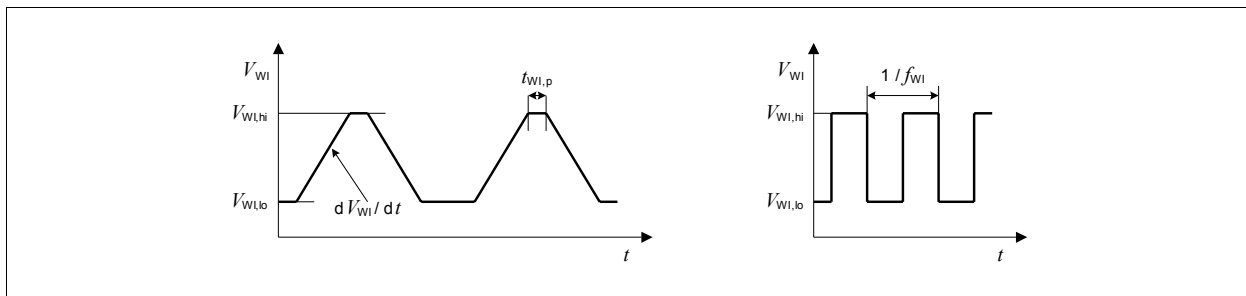

Figure 10 Test Pulses Watchdog Input WI
The watchdog is triggered by an positive edge at the watchdog input “WI”. The signal is filtered by a bandpass filter and therefore its amplitude and slope has to comply with the specification Item 8.2.10 to Item 8.2.14. For details on the test pulse applied, see Figure 10.
- 2) For details on the test pulse applied, see Figure 10.